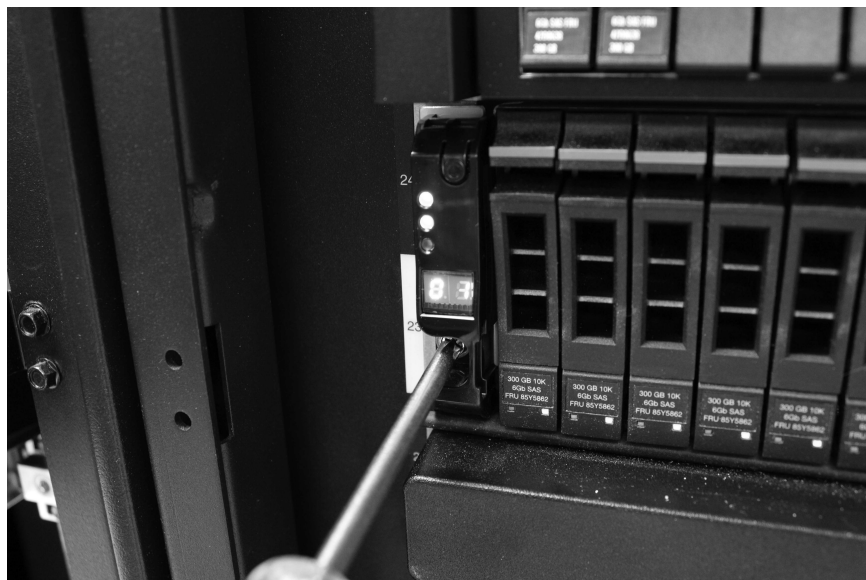

Figure 23. Securing an enclosure to a rack cabinet
4. Insert a screw into the hole behind each enclosure end cap and tighten the screw, as shown in Figure 23 on page 37.